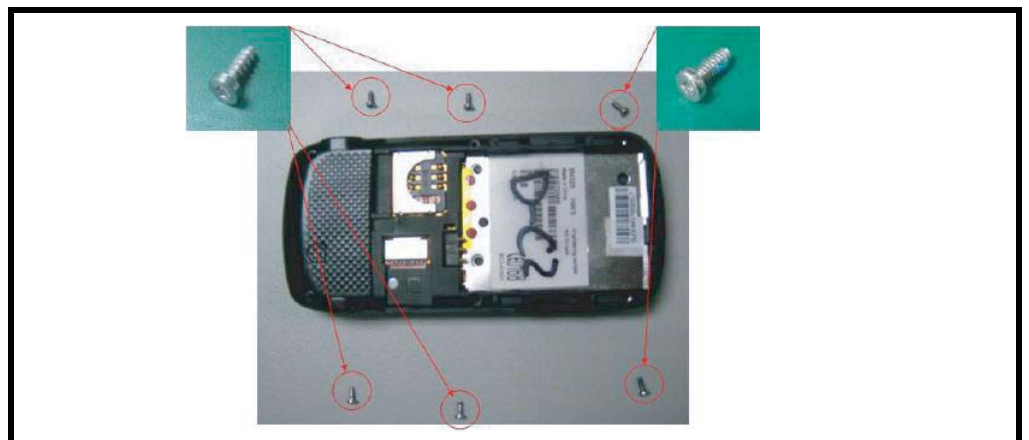

Figure 7. Removing 6 Screws
2. Sequentially remove 6 screws with a 6-corner-star T5 screwdriver as shown in Figure 7.